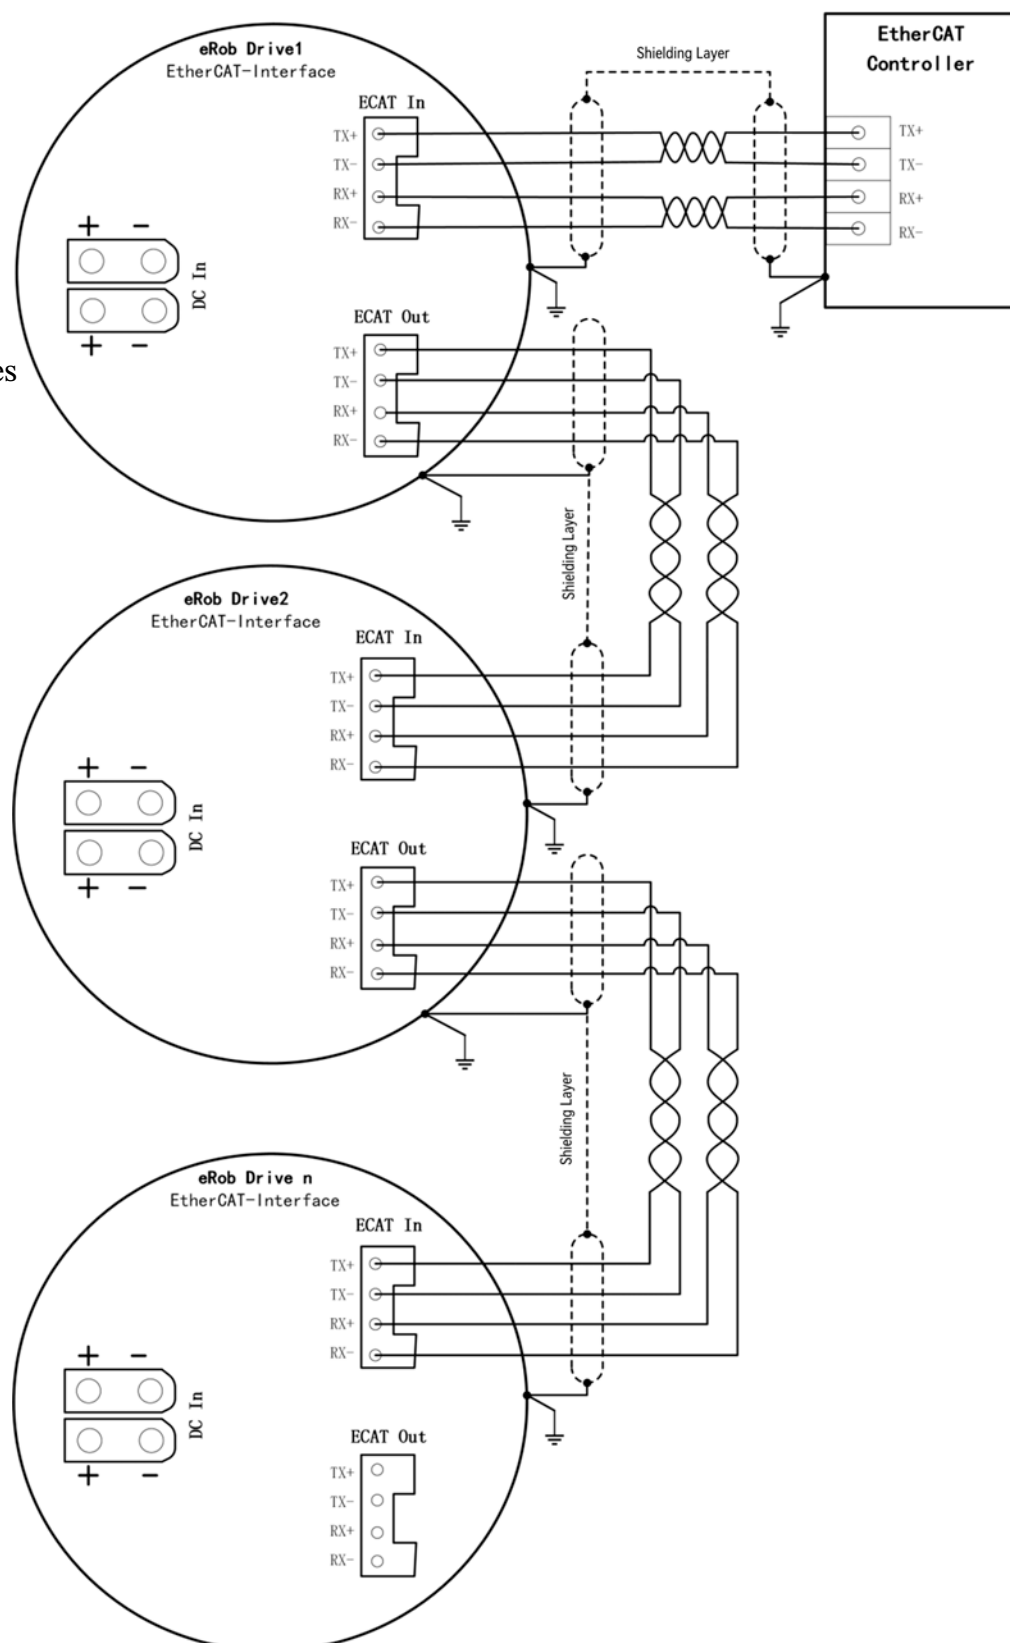

Figure 6-9 EtherCAT communication wiring diagram
6.3 EtherCAT Communication Wiring Diagram (as shown in Figure 6-9)